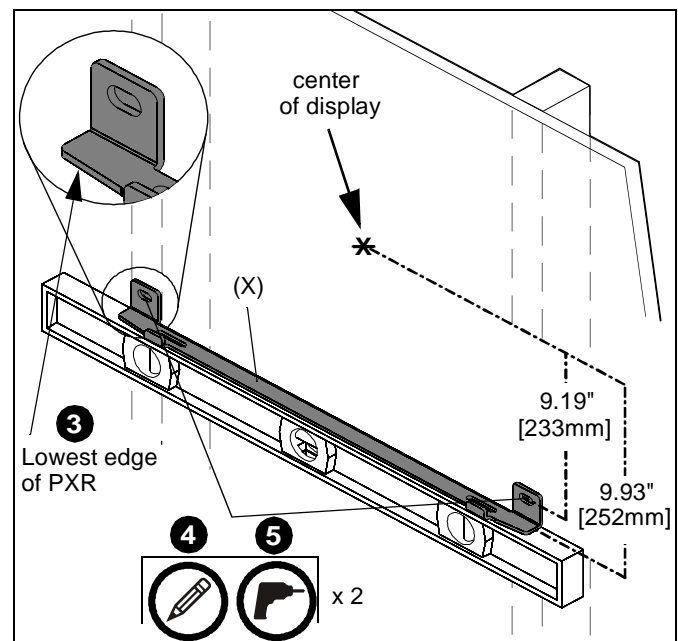
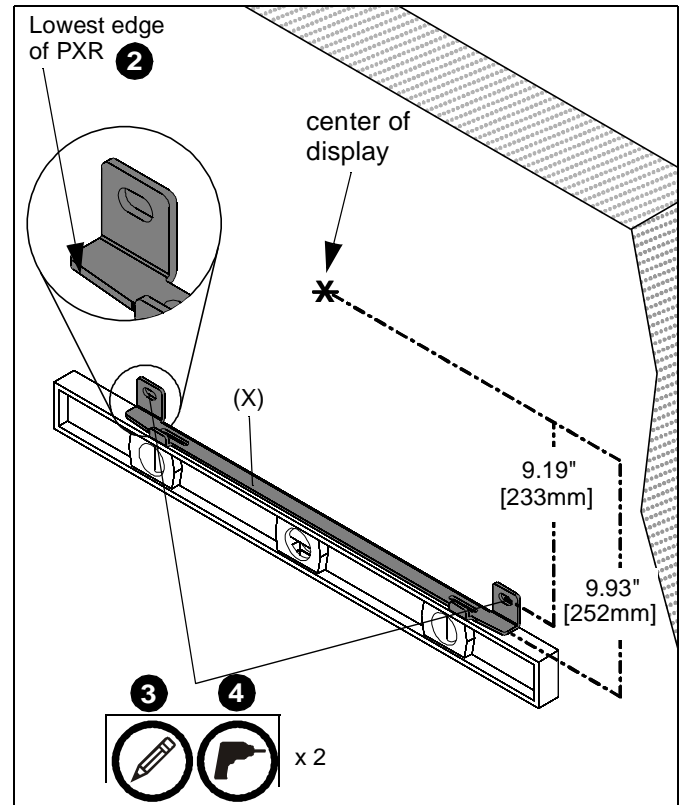

Figure 4
Figure 9
**IMPORTANT ! :** When considering the PXR location, keep in mind that the distance from the lowest edge of the PXR assembly to the center of the interface brackets (which will also be the center of the display) is 9.93" (252mm). The distance from center of the mounting hole in the mounting bracket to the center of the display is 9.19" (233mm). (See Figure 4) and (See Figure 9)
3. Use a level to join the marked points and mark the lowest edge of PXR. (See Figure 4)
4. Place mounting bracket (X) along marked line on top of level, and mark location of pilot holes. (See Figure 4)
5. Drill two 7/32" x 2-3/4" (5.5mm x 69.9mm) pilot holes at locations marked in Step 4. (See Figure 4)
2. Use a level to mark the lowest edge of PXR. (See Figure 9)
3. Place mounting bracket (X) along marked line on top of level, and mark location of pilot holes. (See Figure 9)
4. Drill two 5/16" x 3-1/4" (M8 x 82.5mm) pilot holes at locations marked in Step 3. (See Figure 9)